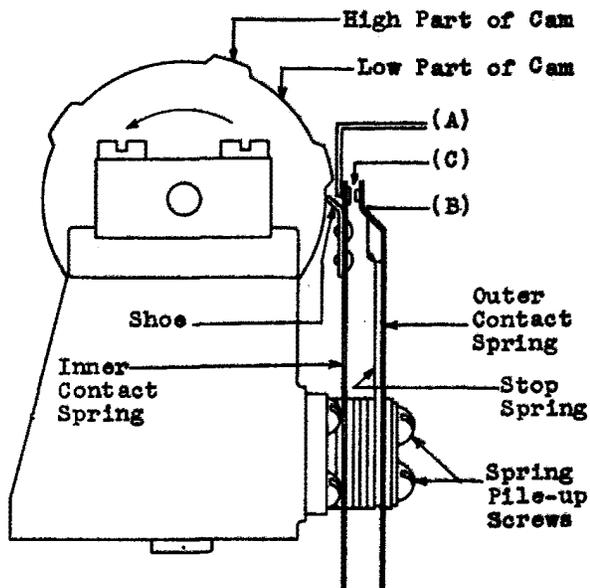

Fig. 3 - Low-speed Cam Assembly
**2.07 Pressure of Cam Shoe on Cam:** Fig. 3(A) — The pressure of the shoe of the inner contact spring against the *low* part of the cam, measured at the top of the inner contact spring, shall not exceed 25 grams.
**2.08 Position of Outer Contact Spring:** Fig. 3(B) — With the shoe of the inner contact spring on the *low* part of the cam, the outer contact spring shall rest on the stop spring, at least at the free end of the stop spring.
**2.09 Contact Separation:** Fig. 3(C) — With the shoe of the inner contact spring on the *low* part of the cam, the separation between the contacts of the inner and outer springs shall be